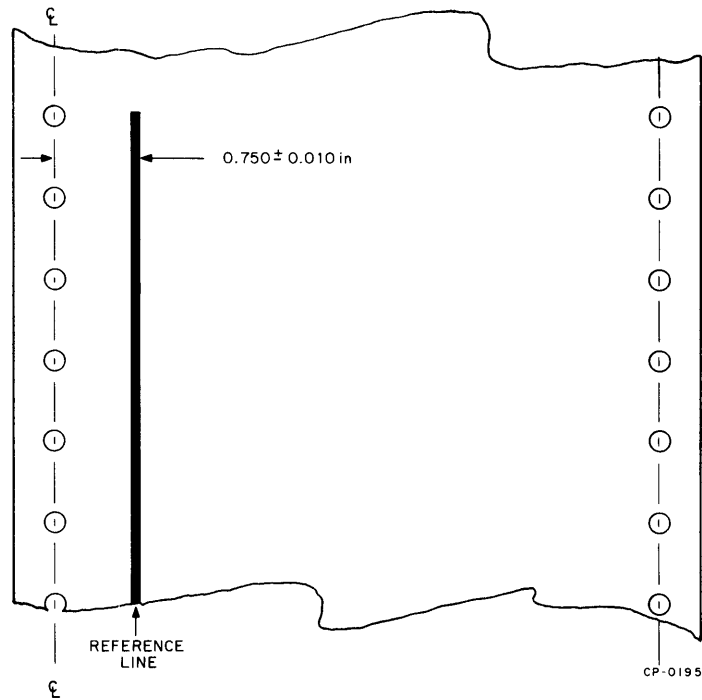

Figure 5-7 Checking Left Margin
1. Prepare a length of paper from the LA30 paper supply by drawing in a reference line in pencil or ink 0.750 ± 0.010 in. in from the left-hand sprocket hole centerline, and parallel to the sprocket hole centerline (Figure 5-7).